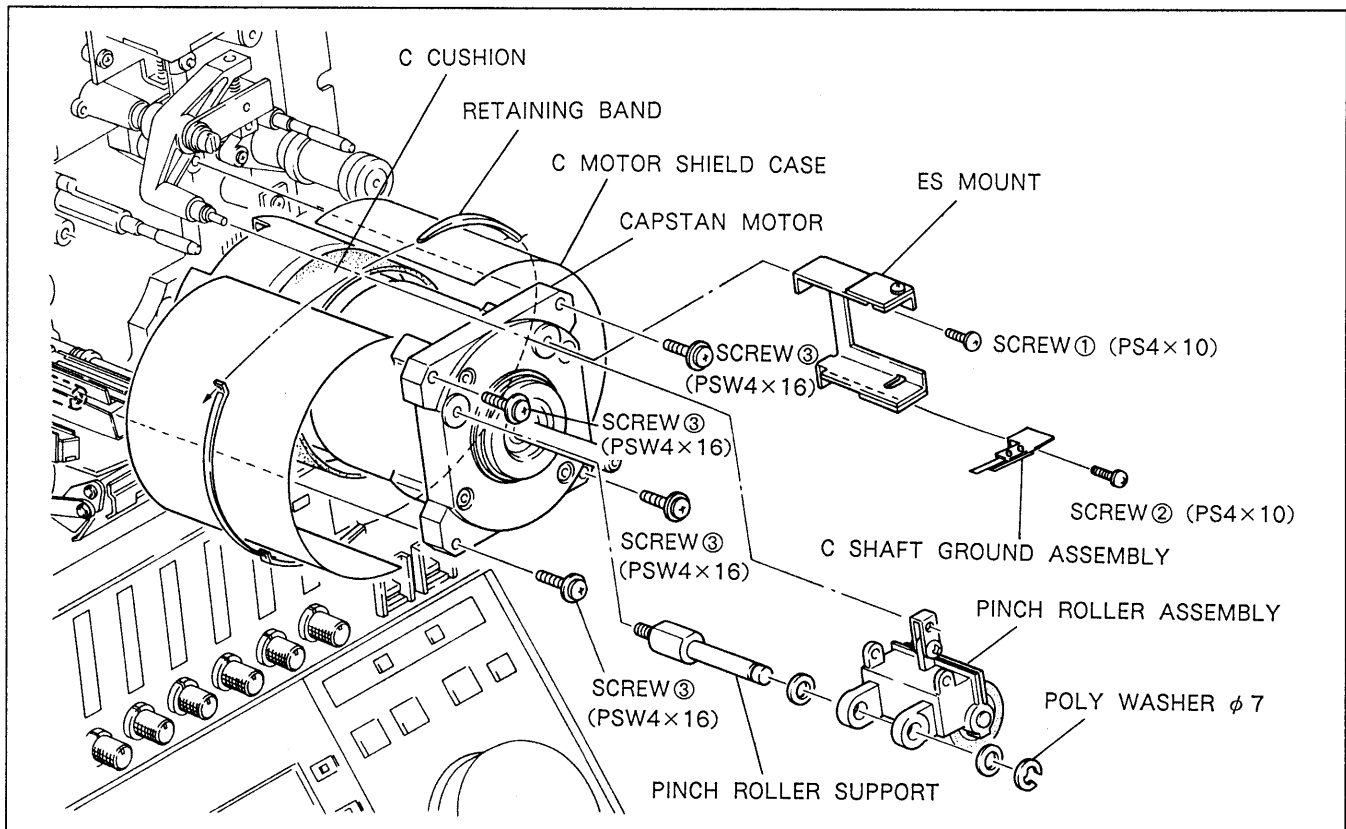

Fig. 6-10-1. Capstan Motor Replacement
5. Remove the four screws ③ and remove the capstan motor.
6. Cut the retaining band for the C motor shield case and remove the C motor shield case and the C cushion as shown in Fig. 6-10-1.